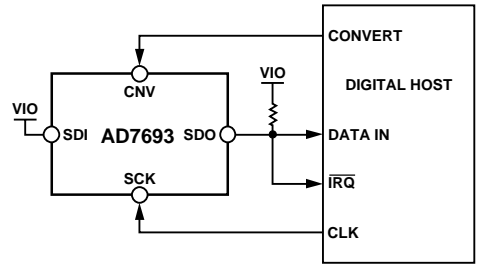
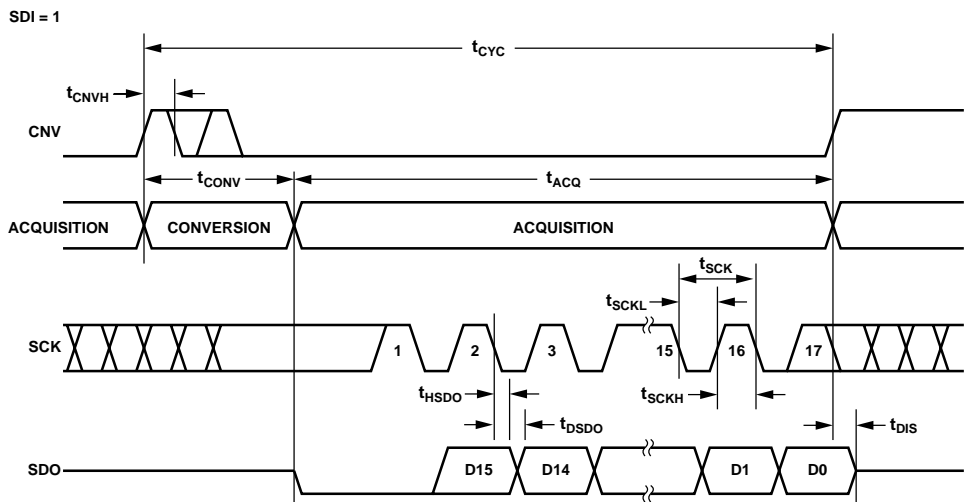
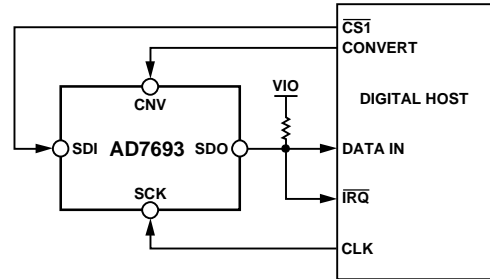
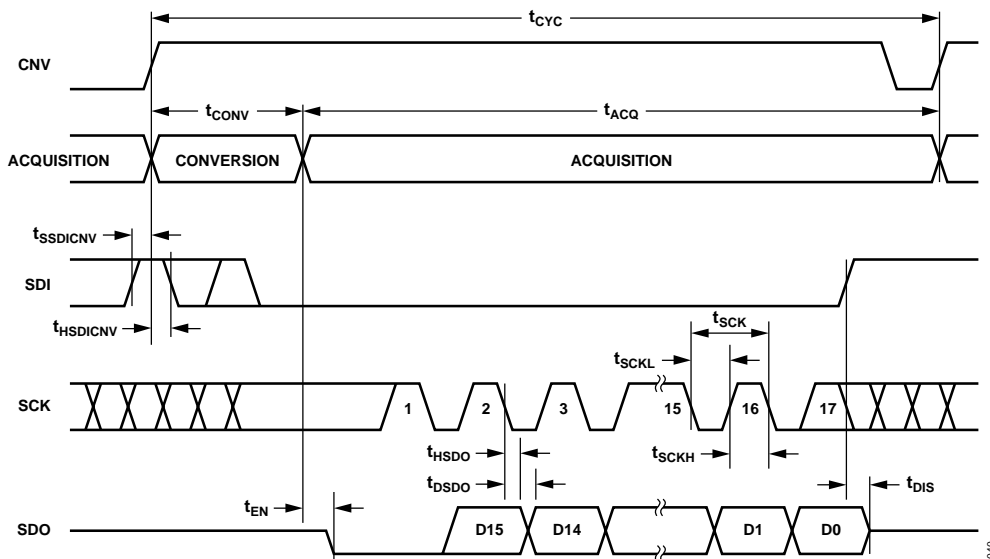

Figure 35. 3-Wire $\overline{\text{CS}}$ Mode with Busy Indicator Connection Diagram (SDI High)
Figure 36. 3-Wire $\overline{\text{CS}}$ Mode with Busy Indicator Serial Interface Timing (SDI High)
Figure 39. 4-Wire \overline{CS} Mode with Busy Indicator Connection Diagram
Figure 40. 4-Wire \overline{CS} Mode with Busy Indicator Serial Interface Timing
- In the \overline{CS} mode if CNV or SDI is low when the ADC conversion ends (see Figure 36 and Figure 40).
The connection diagram is shown in Figure 35, and the corresponding timing is given in Figure 36.
The connection diagram is shown in Figure 39, and the corresponding timing is given in Figure 40.